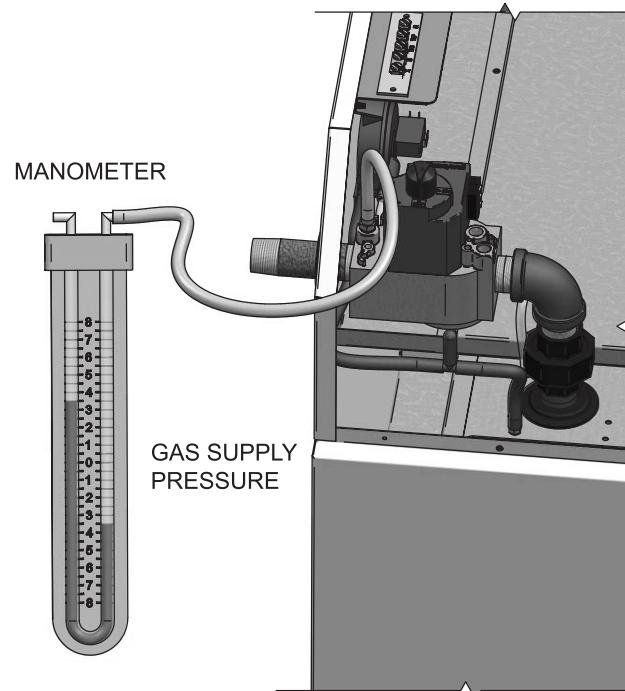

Figure 9-1_Gas Supply Pressure Measurement - Models ER152 - ER202
3. On ER152 - ER202 models remove the 1/8" hex plug, located on the "inlet" side of the gas valve. An inlet pressure tapping is located on the top side of the valve body (see FIG. 9-1).